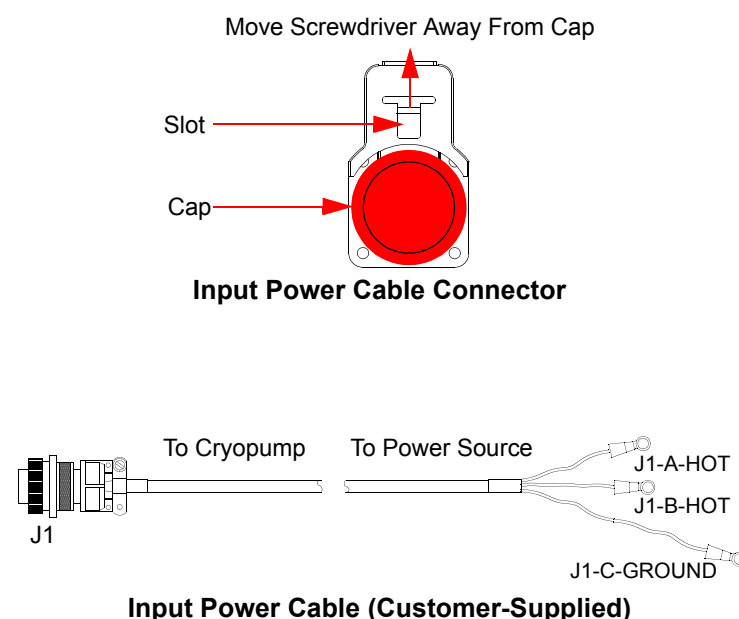
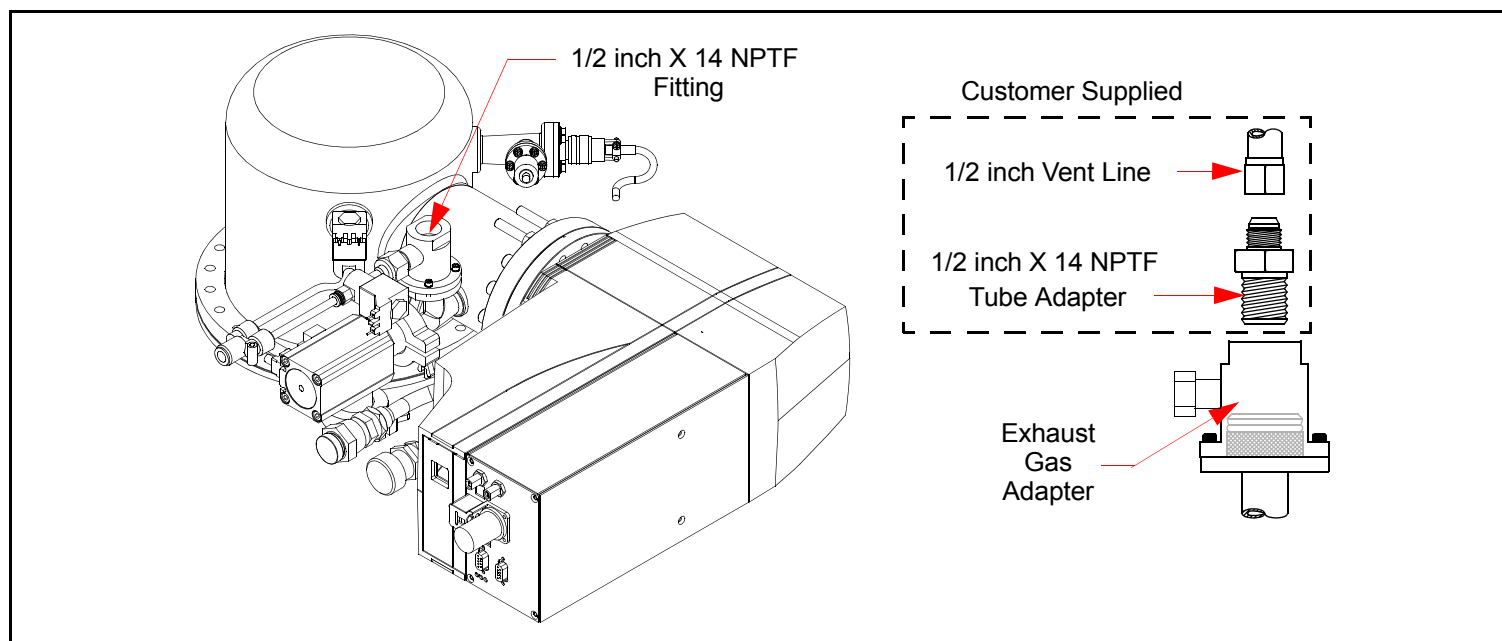

Figure 2: Input Power Cable Connector and Input Power Cable
Figure 3: Relief Valve Exhaust Connection
NOTE: To avoid loss of helium, do not modify or remove the pressure relief valves. (See *Figure 3*) Always connect and disconnect helium flex lines with the method illustrated in *Figure 1 Inset*.
See the following numbered steps in *Figure 1*, *Figure 2*, and *Figure 3* for cryopump installation connections.
4. Connect pressure relief valve exhaust (*Figure 3*).
12. Remove cap and connect Input Power Cable (*Figure 2*).